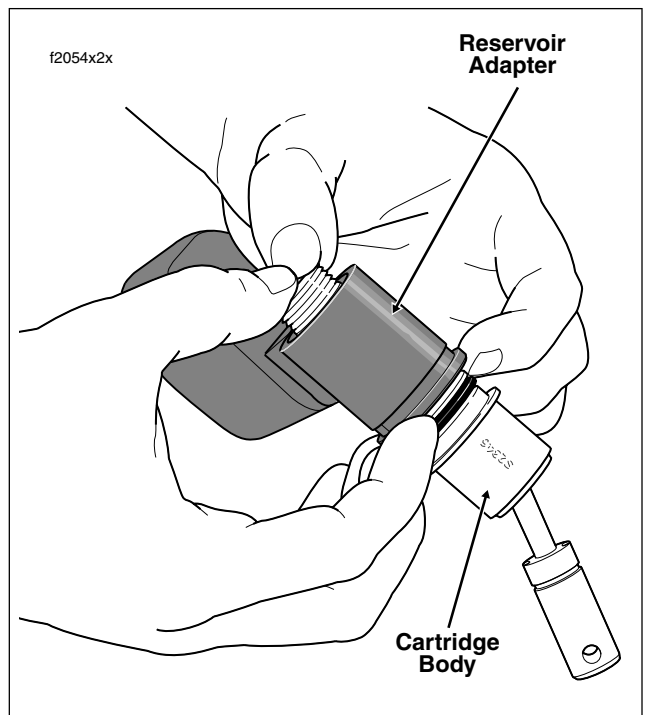

Figure 2-51. Remove Cartridge From Reservoir Adapter
6. Push on threaded end of cartridge body to remove from reservoir adapter. Use hand pressure only. Exercise caution to keep cartridge body free of dirt and grease. See Figure 2-51.